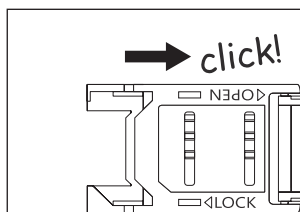

Fig. 25
2. On the SIM holder pcb, slide the SIM holder to the right until it 'clicks', as shown in **Fig.25**.